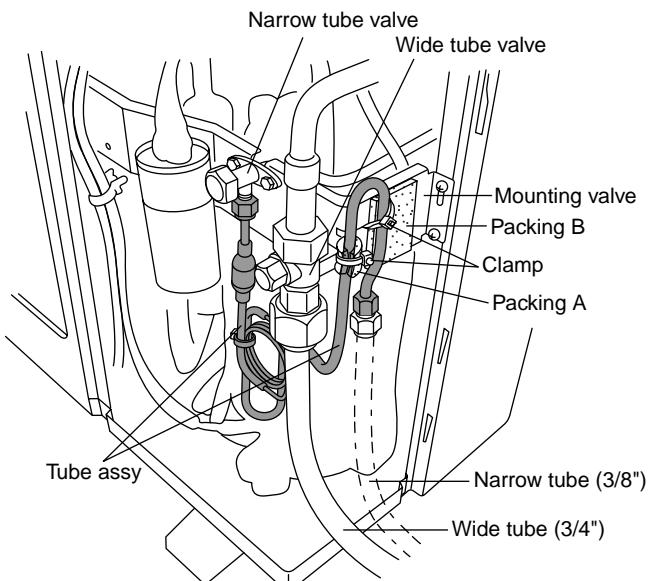
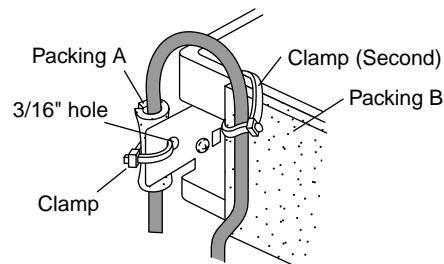

Fig. 9a
Fig. 9b
- (1) Connect a wide tube (3/4") to the wide tube valve. (Fig. 9a)
- (2) Connect the tube assy, which was packed in the indoor unit carton, to the narrow tube valve.
- (3) Before attaching the tube assy to the mounting valve, wrap the supplied packing A (3/4" × 1-3/8" × T3/16") onto the 5/16" tube of the tube assy to avoid direct contact of the tube assy with the mounting valve. (Fig. 9b, 9c)
- (4) Similarly arrange the supplied packing B (2-3/8" × 1-3/16" × T3/16") on the mounting valve. (Fig. 9b, 9c)
- (5) Insert the clamp in the extracted round hole ( $\varnothing$  3/16") on the mounting valve, and bind the tube assy and packing A. (Fig. 9b)